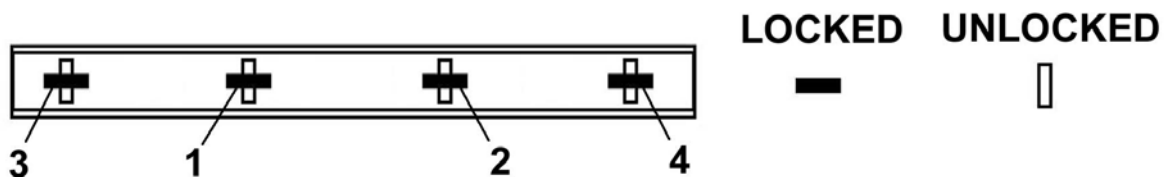

Figure 6-5 Draw Bolt Tightening Sequence
9. Using ratchet or T-handle wrench, tighten the left side draw bolts from outside screen frame in the sequence shown in Figure 6-5.